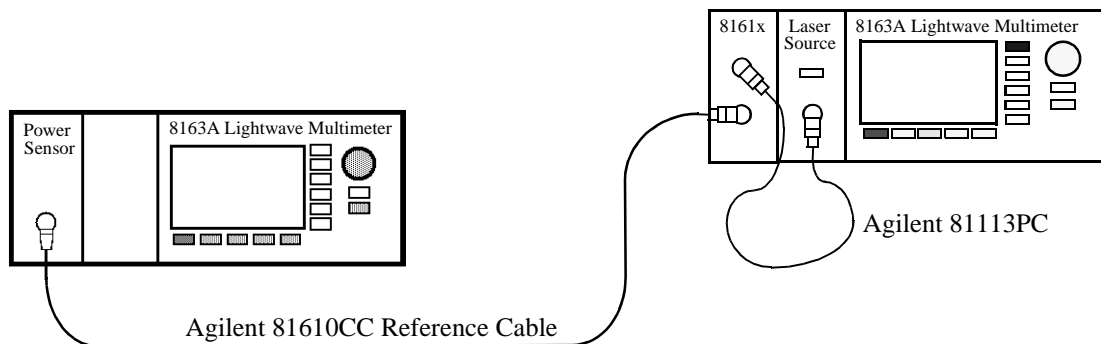

Figure 18 Measuring the Power Transmitted through the Reference Cable - External Source
- 1 Making sure all the connectors are clean, set up the instrument as shown in Figure 18